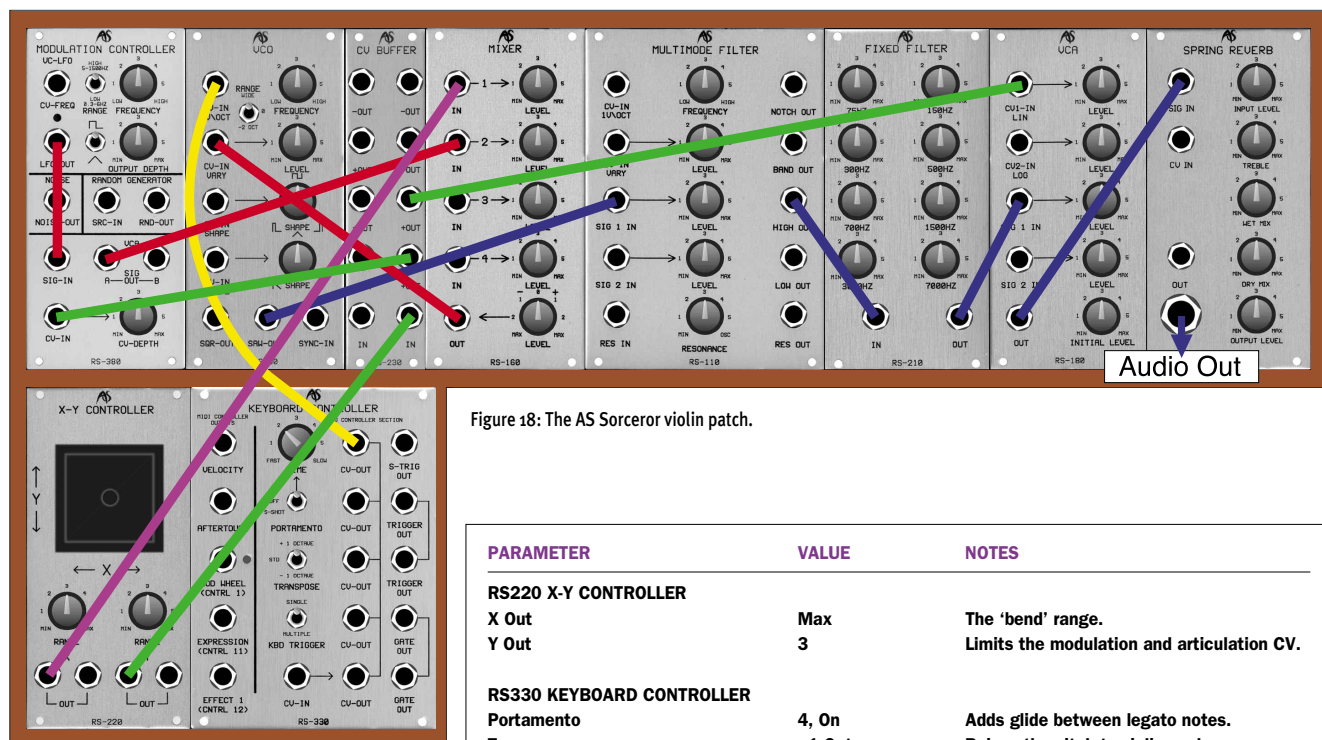

Figure 18: The AS Sorceror violin patch.
If we now add the CV cords to the signal cords, we obtain the visual spaghetti that is Figure 18 (on the next page). Nevertheless, if you follow all the paths, you can see that it not only works, it makes sense.
► a bit like taking a Minimoog and expecting it to sound like a violin, simply because its modules are connected together. So let's finish this month's article by adding some values to the knobs in Figure 18. Bear in mind that these are to my taste on the days that I wrote this, and that you might find other values more to your liking. What's more, tiny changes in the values of the knobs can make significant differences to the resulting sound, yet I have listed them to the nearest half. So, with these caveats in mind, take a look at the table of values on the right. To obtain the complete patch, combine the routings depicted in Figure 18 with the settings in the table.